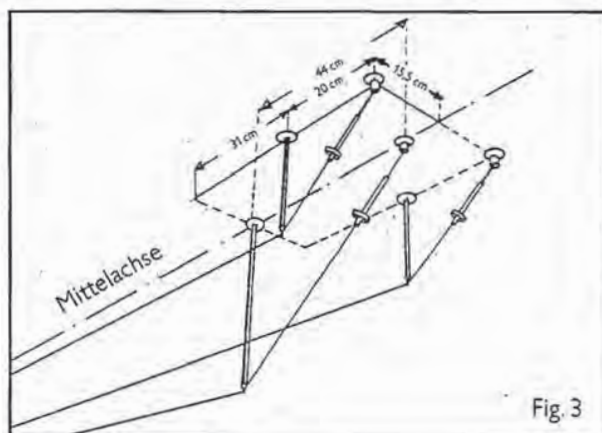

Fig. 3
If the **BMA AL** to be mounted on the ceiling, the cables must be stretched over the ceiling rods at an angle to the ceiling. Fig. 3 illustrates the correct positioning of the six rods and ceiling fixtures.
**The drill hole for the transformer must be exactly in the centre between the two upper cables (Fig. 3).**